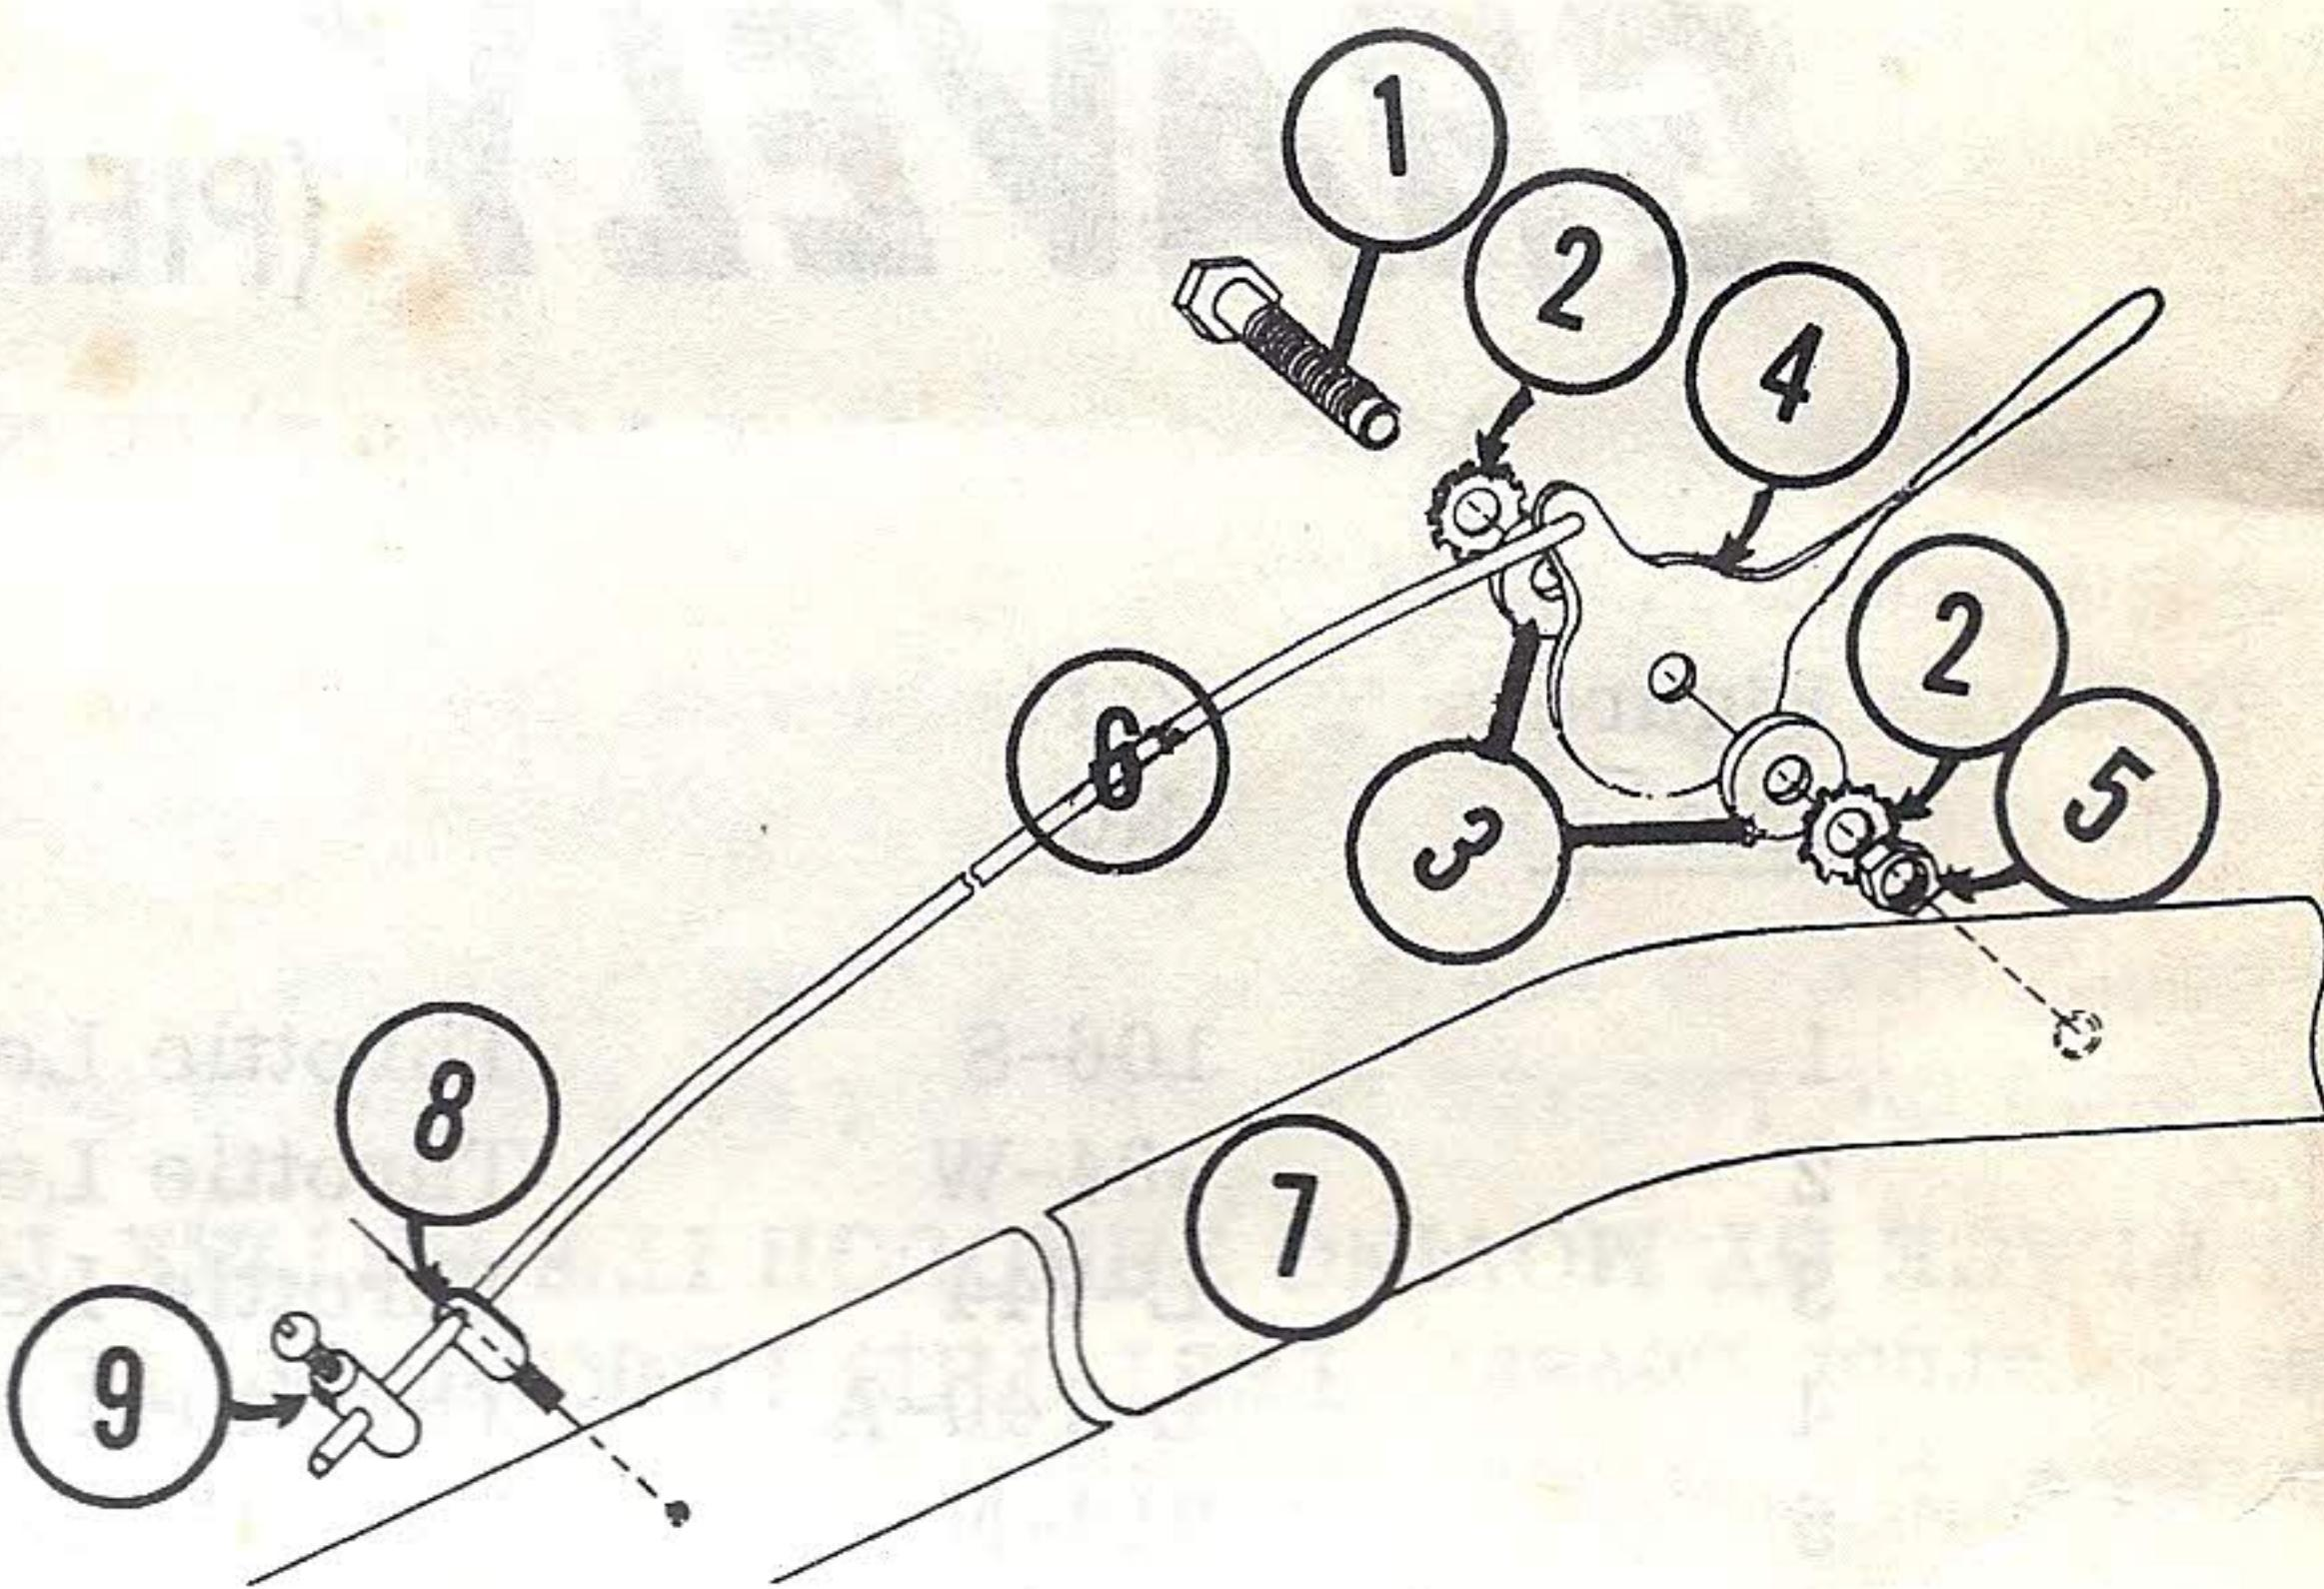

Figure 2
8. Replace Throttle Wire on new Governor Throttle Lever. Insert Wire through L-743 Throttle Stud, then assemble Throttle Assembly to Tractor Handle. See Figure 2.
- Replace Throttle Wire on new Governor Throttle Lever. Insert Wire through L-743 Throttle Stud, then assemble Throttle Assembly to Tractor Handle. See Figure 2.
16. Slip the Governor Control Stop (9 in Figure 2) on the Throttle Wire.
21. At this point, the Governor Spring will be extended. Now, move the small Governor Control Stop that has been threaded on the Throttle Wire in Step 16, until it is firmly against the Throttle Stud (8 in Figure 2). Tighten the small Screw until it firmly and securely holds the Throttle Wire.
7. Séparer la biellette de commande du carburateur et la tringle de commande des gaz (6)
8. Faire passer la tringle (6) dans le support et fixer le tout au mancheron - voir figure 2. (8)